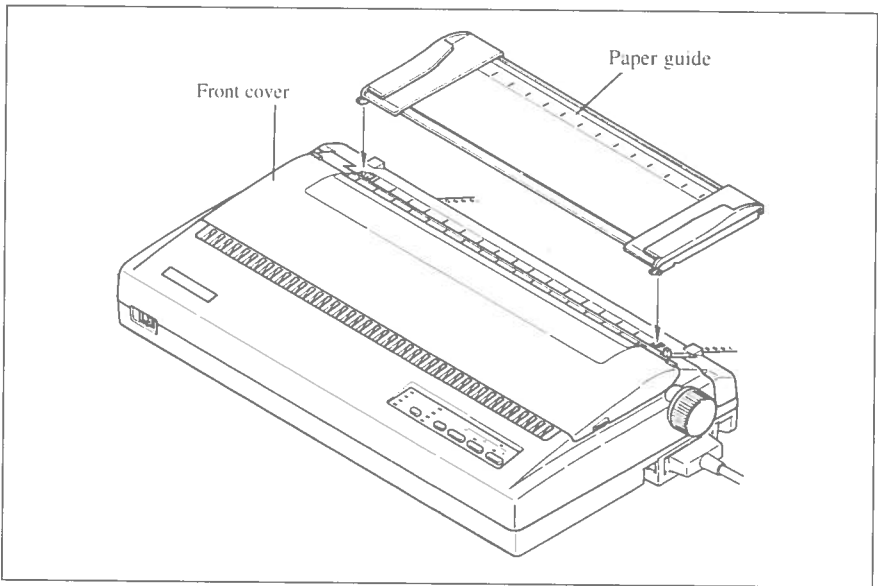

Figure 3-9. Close the rear cover, then set the paper guide horizontally.
9. Mount the paper guide in the horizontal position, as shown in Figure 3-9. This will separate the printed from the unprinted paper.